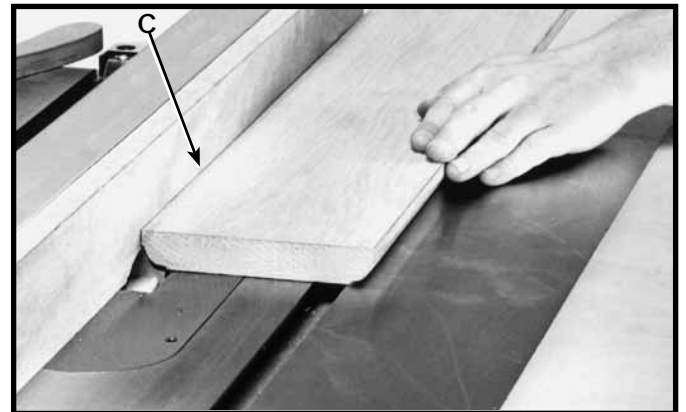

Fig. S16
2. When using the moulding cutterhead, add wood-facing (C) to the face of the rip fence (Fig. S16). The wood-facing is attached to the fence with wood screws through holes which must be drilled in the fence. Stock that is 3/4" thick is suitable for most work, although an occasional job may require 1 inch facing.
3. Position the wood-facing over the cutterhead with the cutterhead below the surface of the table. Turn the saw on and raise the cutterhead. The cutterhead will cut its own groove in the wood-facing. Fig. S16 shows a typical moulding operation.